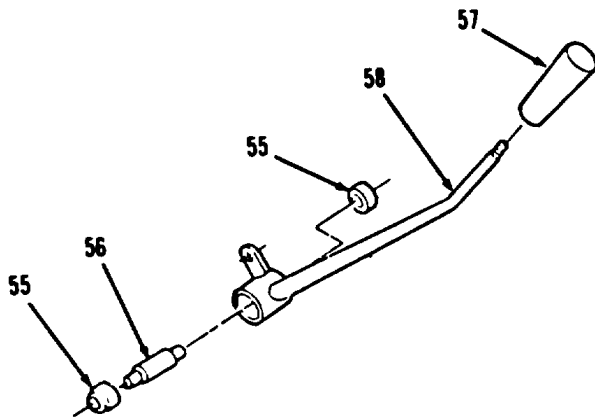
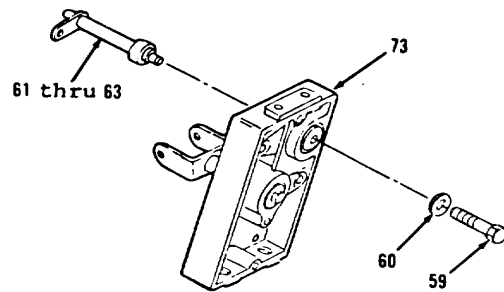

Figure 5-11.
Figure 5-12.
25. Remove two bearings (55) and shaft (56) from lever (58, Figure 5-11).
26. Remove knob (57).
27. Remove bolt (59), washer (60) and items 61 thru 63 as an assembly (Figure 5-12). Using hammer and punch, drive items 61 thru 63 as an assembly out of housing (73).